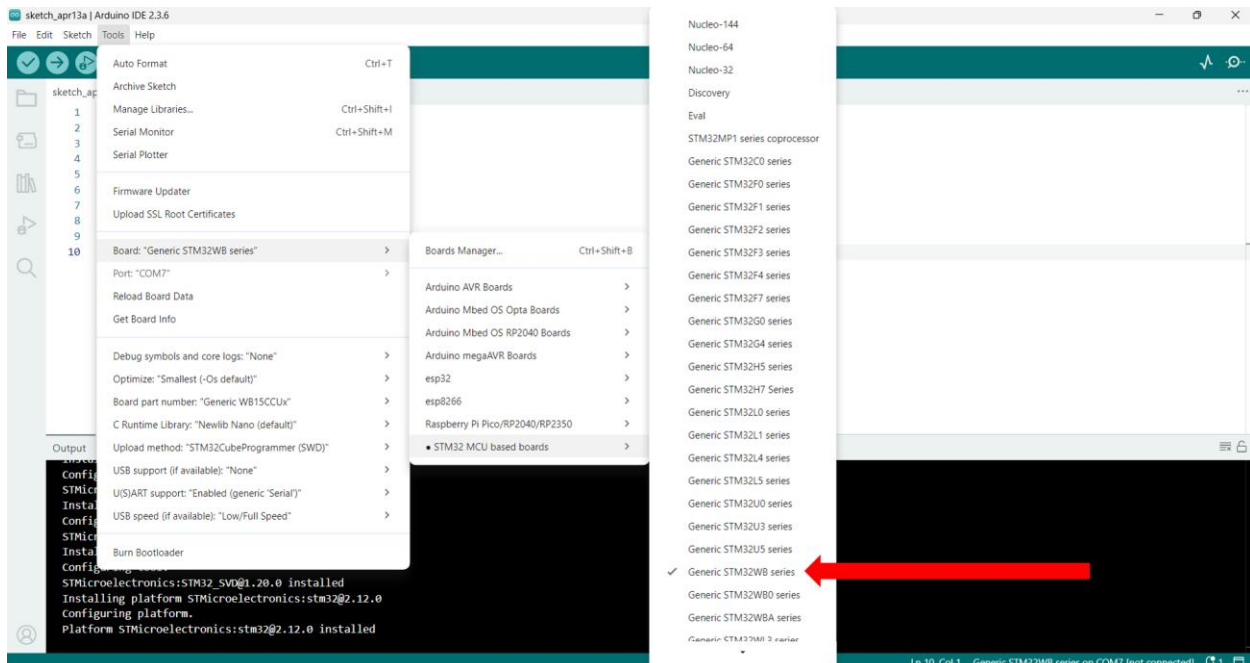

Figure 13
8. Go to Tools -> Board -> STM32 MCU based boards -> choose Generic STM32WB series, as indicated in Figure 13.